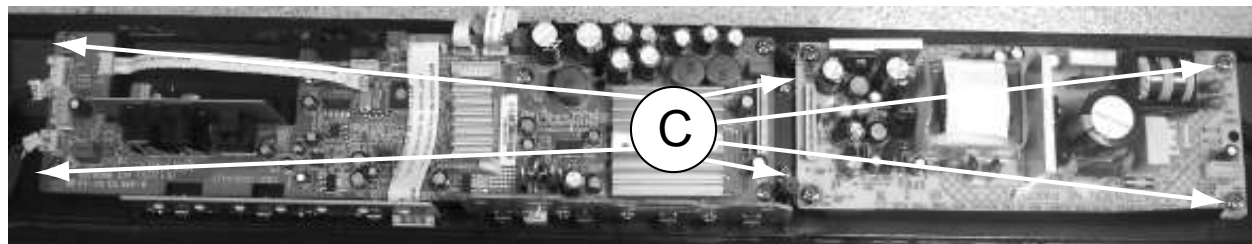

Figure 3
- 1) Loosen 6 screws "C" to remove the Main Board Bracket as shown in figure 3.